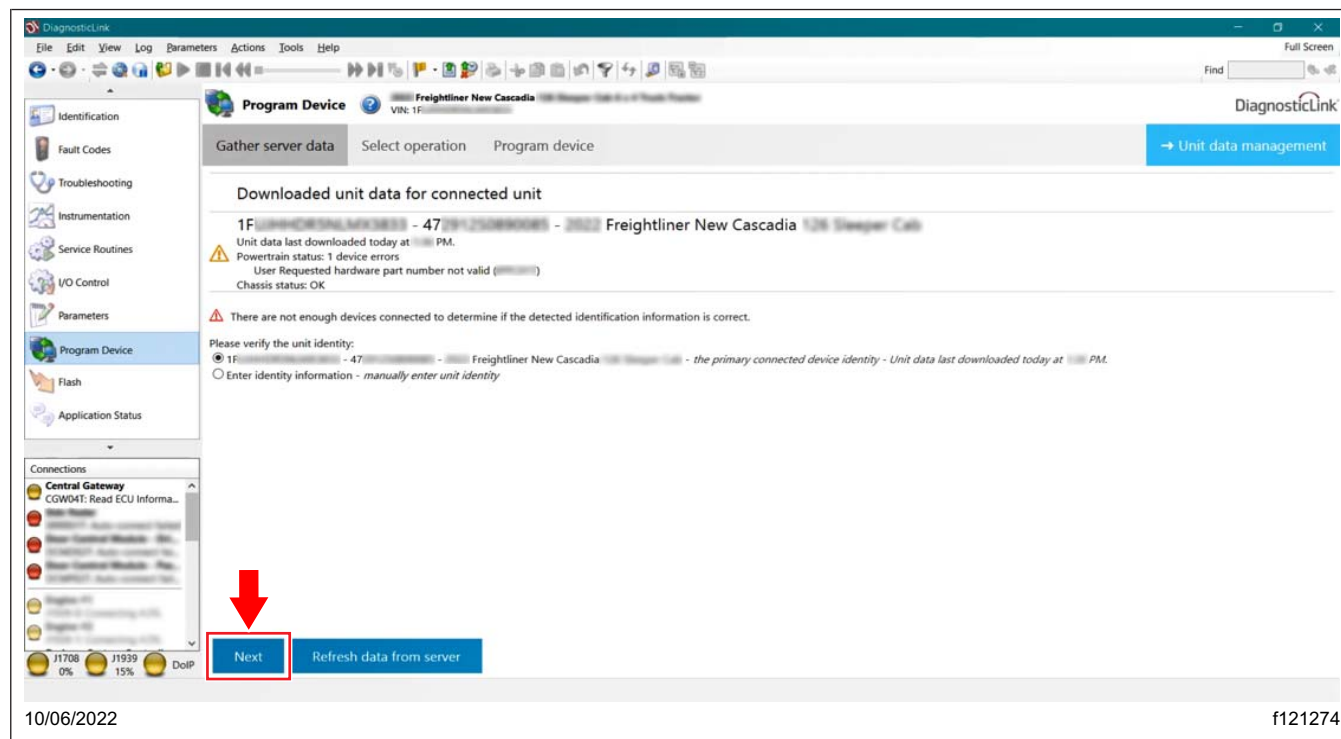

Fig. 31, Selecting Next
14. Once the latest data is retrieved, select 'Next.' See Fig. 31.